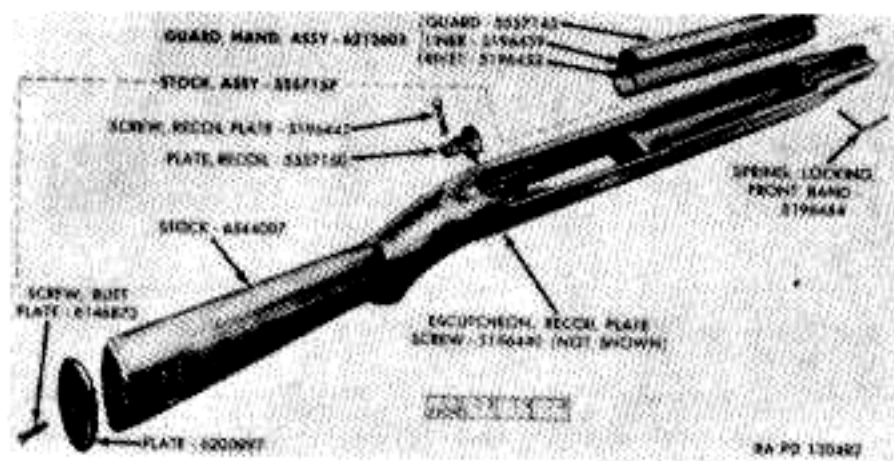

Figure 93. Stock and guard assemblies — carbine M1.
a. Front Band Locking Spring (Figs. 93 and 94). Insert small, straight punch in spring spindle hole in left side of forward end of stock and drive out front band locking spring part way, from left to right; then rotate spring and pull from hole.
b. Recoil Plate (Figs. 93 and 94).
- (1) Inscrew recoil plate screw counterclockwise until clear of escutcheon
- (2) Loosen recoil plate by tapping lightly on rear top face with a metal tool. Pull plate directly forward out of seating recess in stock. Do not pull up or down, because rear seating lug on plate seats in a horizontal recess cut in the stock.
- (3) Do not remove the recoil plate screw escutcheon from the stock except for replacement. To remove, thread recoil plate screw into the escutcheon from the underside until all of the threads of the escutcheon are engaged and pull escutcheon out of stock. If withdrawal is difficult, insert small straight punch from top of screw hole in stock and tap end of screw lightly to loosen escutcheon, or thread screw in from top, part way, and tap lightly; then proceed as above.
c. Butt Plate (Figs. 93 and 94). Unscrew butt plate screw counterclockwise and remove from stock. Loosen butt plate by tapping it lightly. Pull to rear off stock. If butt plate is tight, do not pry off, as stock is likely to be damaged. Tap on edges lightly all the way around, until loose enough to pull from stock.
d. Hand Guard (Figs. 93, 94, and 96). The liner of the hand guard assembly is riveted to the hand guard; do not remove it.
b. Loose Rivets in Hand Guard Liner. — A hand guard liner (Figs. 93 and 94) indicates improper spreading of the rivets. These rivets are tubular; tighten them by spreading the hollow (inner) ends with a blunt punch. Support the opposite (beaded) end of the rivet while riveting. Place rivet head on a small steel rod or punch clamped in a vise.